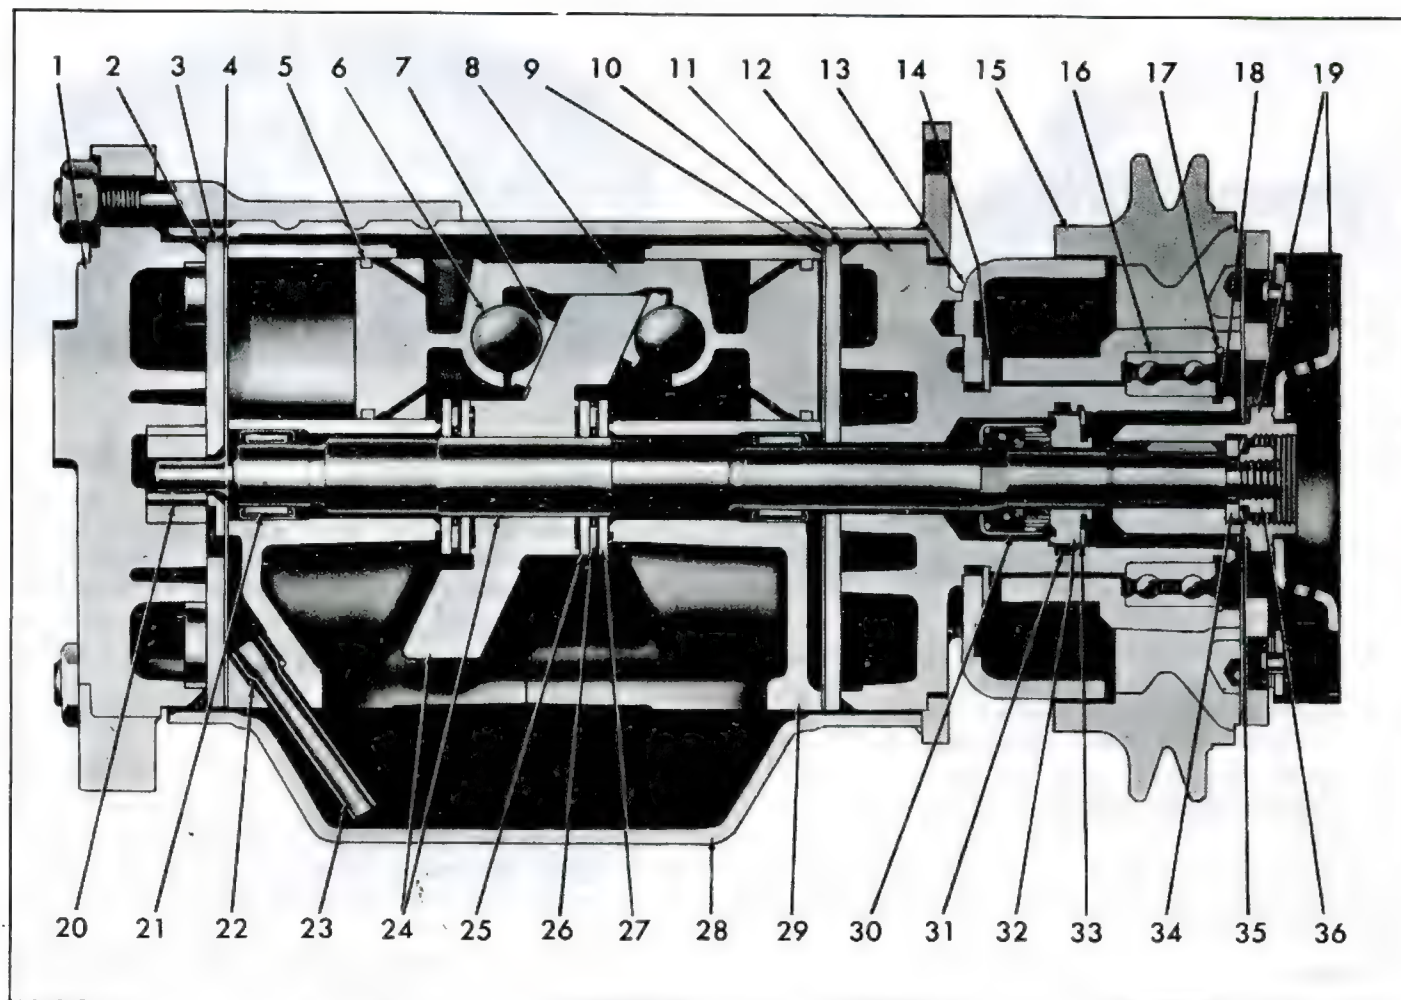

Fig. 30—Six-Cylinder Compressor—Cross Section View
4. Use Snap Ring Pliers J-5403 to remove the retainer ring (Item 35, fig. 30). Then remove the hub spacer.
4. Install the hub spacer washer and, using Snap Ring Pliers J-5403, install the retainer ring (Item 35, fig. 30), convex side of ring facing washer.